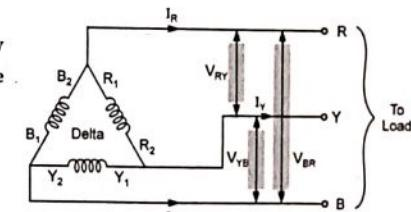

Fig. 4.6.2 Delta connection
- Similarly for delta connected system we can show the line voltages and line currents as in the Fig. 4.6.2.